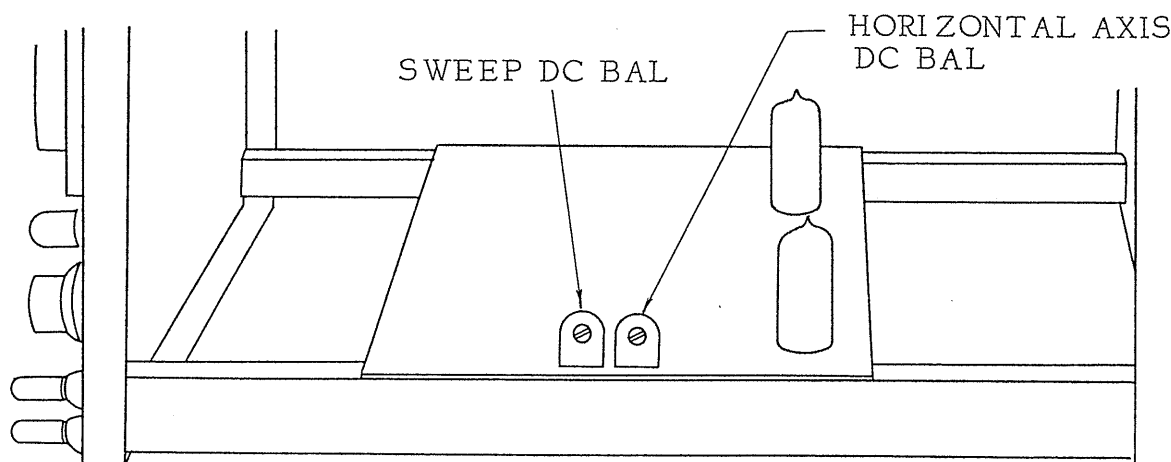

Fig. 12
- (1) Set the SWEEP RANGE switch to the EXT position to stop the internal sweep, and set the spot on the CRT screen to the center of the scale.
- (2) Reset the SWEEP RANGE switch to the 100 Hz ~1 kHz range position. Do not move the HOR POSITION knob thereafter.
- (3) Set the SWEEP RANGE VARIABLE knob to a middle position.
- (4) Set the SYNC SELECT switch to the EXT position.
- (5) Set the trace to the center of the scale by adjusting the SWEEP DC BAL controlling semi-fixed resistor shown in Fig. 12.